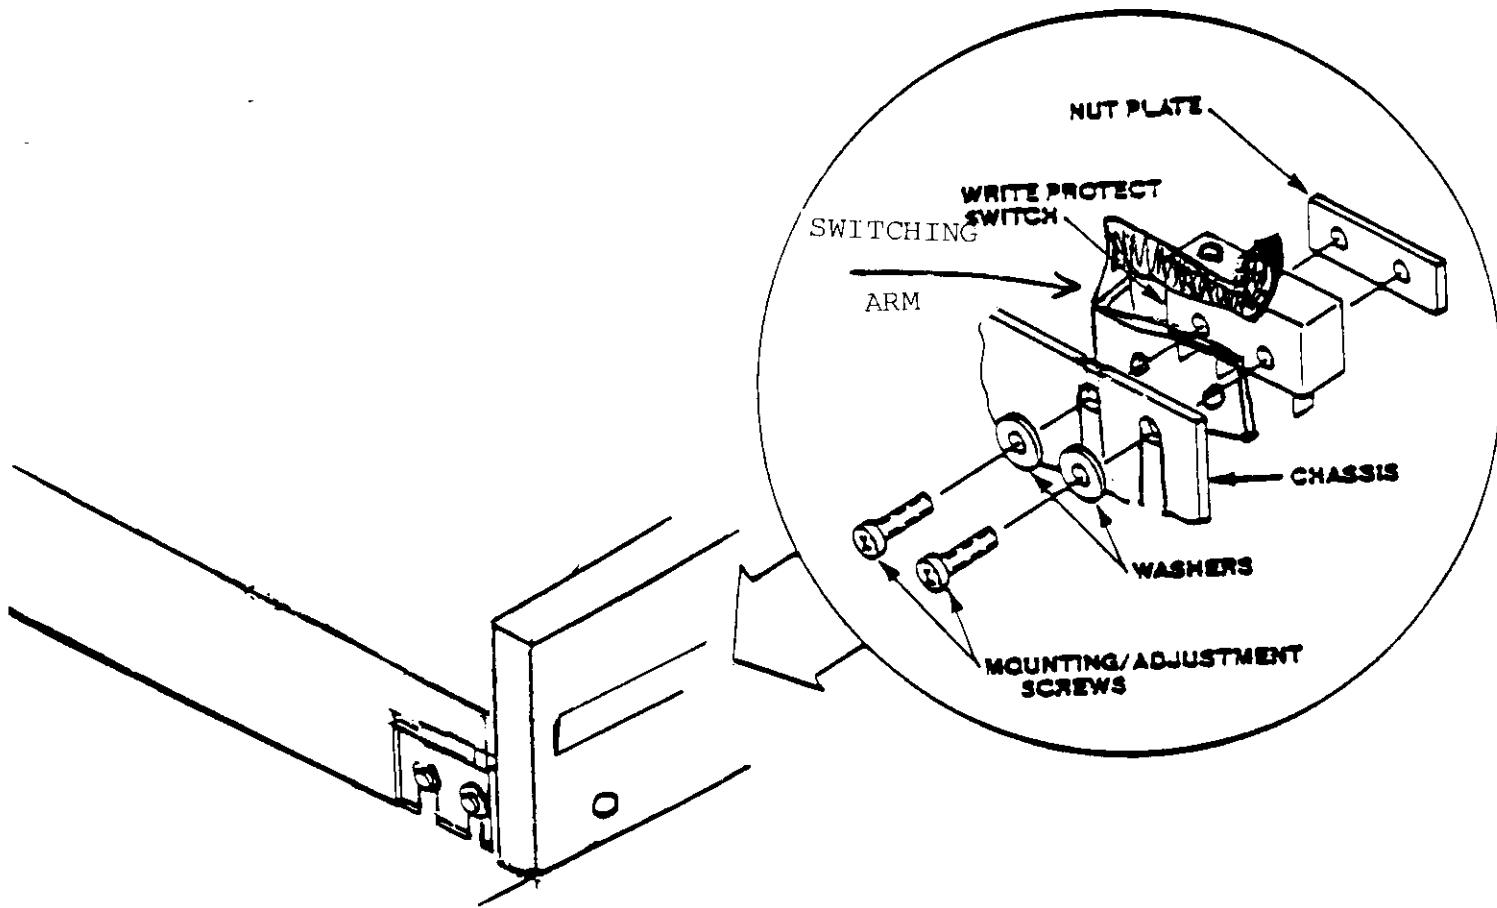

FIGURE 5-2
1. Loosen the screws holding it to the bracket on the side nearest to the front of the drive (Figure 5-2).